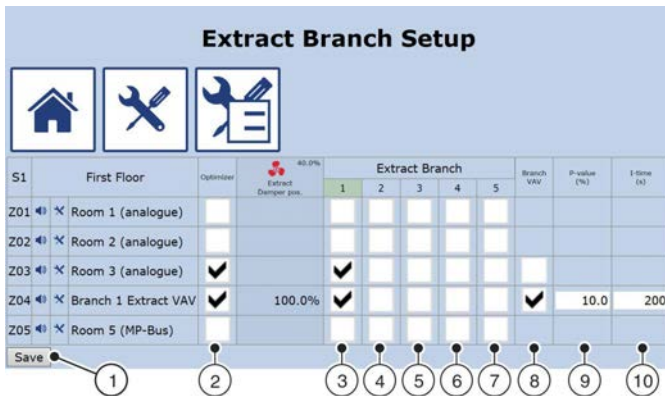

Fig. 38: Extract Branch Setup
- ⇒ The 'Extract Branch Setup' screen (Fig. 38) displays.
8. ▶ Enter the integration time in seconds (Fig. 38 / 10).
9. ▶ To optimise the extract branch for each zone module, check the appropriate boxes (Fig. 38).
10. ▶ Click on 'Save' (Fig. 38 /1).
5. ▶ Go to the individual columns (Fig. 38 /3 – 7) to assign a common extract branch to the zone modules.
6. ▶ If you want to enter PI values, select the corresponding 'Branch VAV' (i.e. volume flow controller for the branch) (Fig. 38 /8).
7. ▶ Enter P values as percentages (Fig. 38 /9).